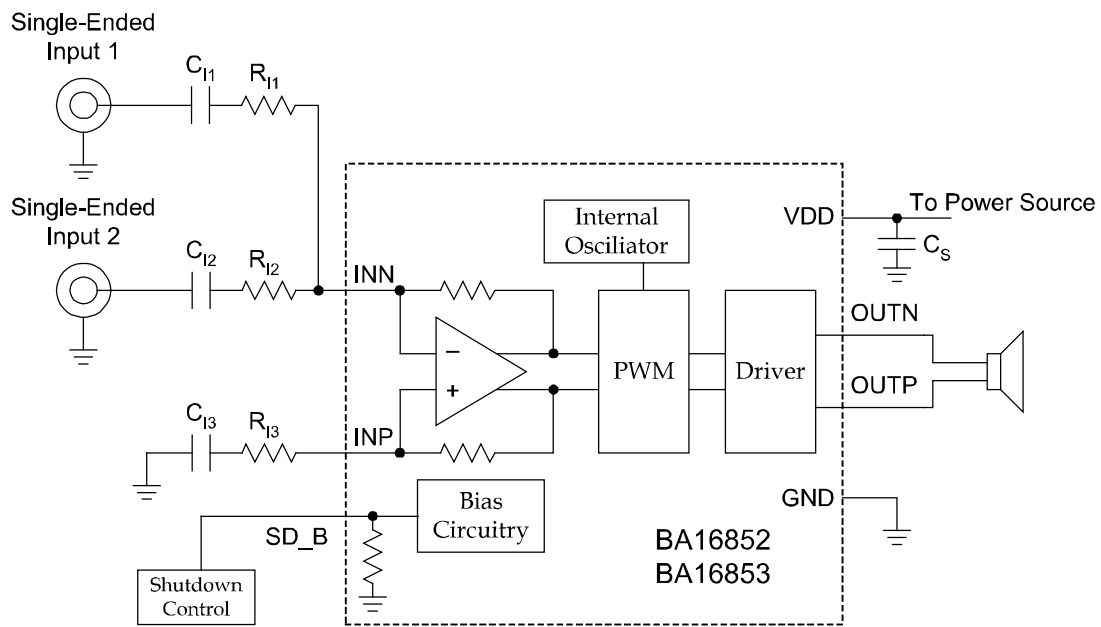

Figure 31. Dual Single-Ended Input Configuration
When using more than one single-ended source as shown in Figure 31. The gain and cut-off frequency (f_{c1} and f_{c2}) for each input source can be set independently, shows in Equation (5) ~ Equation (8). Resistor, R_{13} , and capacitor, C_{13} , are needed on the INP terminal to match the impedance on the INN terminal. Equation (9) and Equation (10) shows how to calculate C_{13} and R_{13} value. The single-ended inputs must be driven by low impedance source even if one of the inputs is not outputting an ac signal.